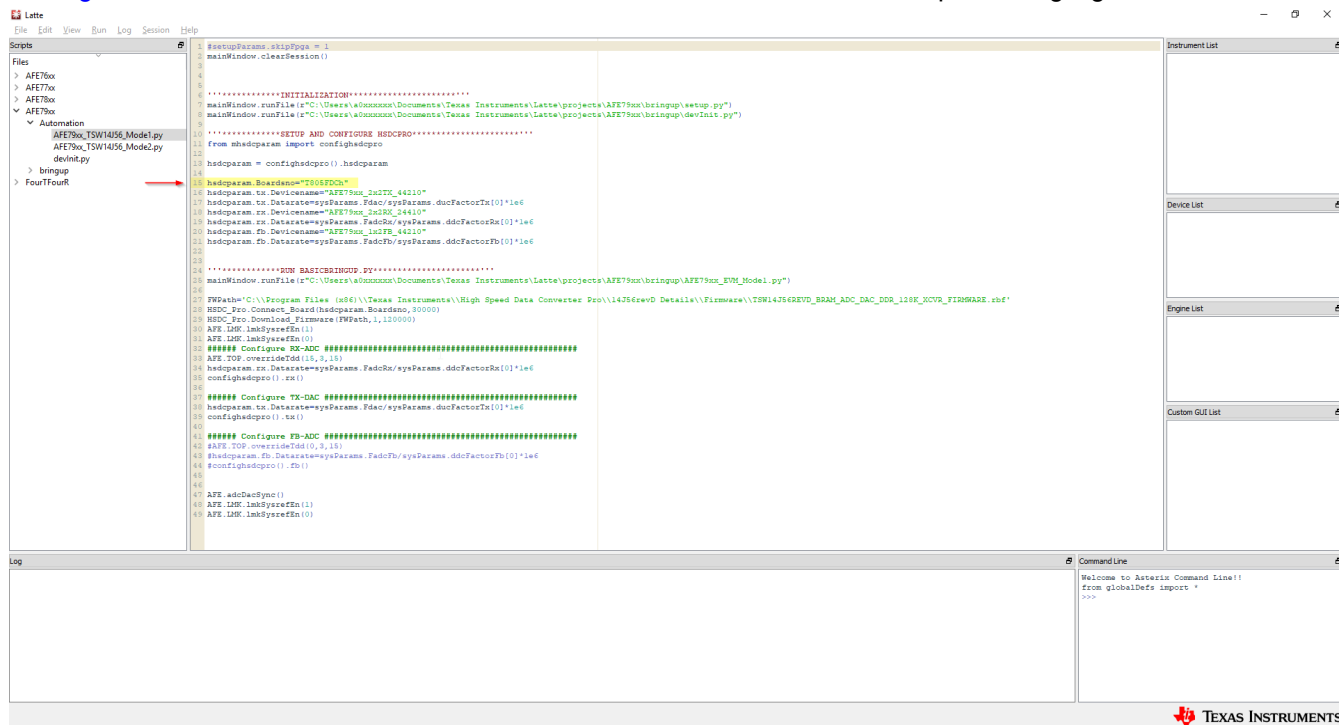

Figure 4-5. TSW14J56 EVM Serial Number Location
- Figure 4-5 shows where to enter the serial number of the TSW14J56 EVM per the highlighted line.